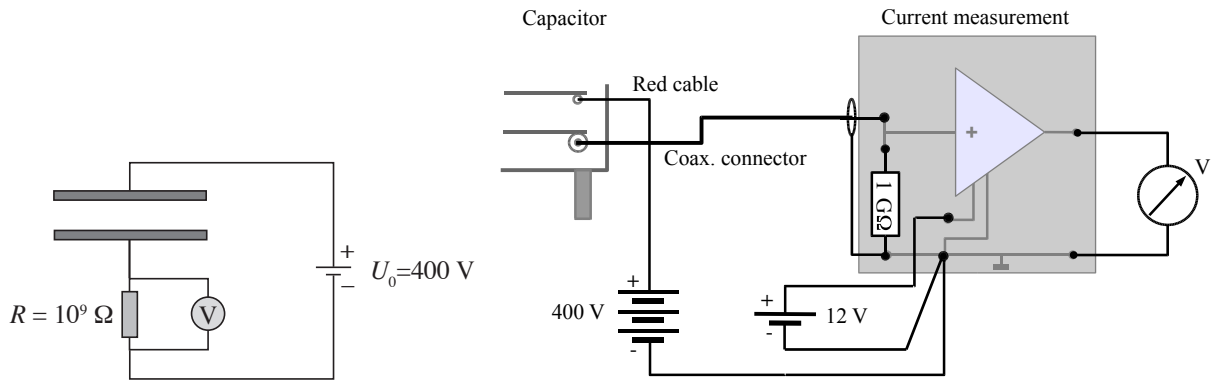

Figure 5.2.4: Schematics (left) of the circuit (right) for the ion dose measurement.
The charge measurement follows the following principle: A high voltage ( $U_0 = 400 \text{ V}$ ) is applied to the plate capacitor, which extracts the charge, produced by ionisation in the air between the plates. If in the time  $t$  the charge  $Q$  in the plate capacitor is produced and fully extracted, the current  $I = Q/t$  flows through the circuit. Because the current  $I$  is too small for a direct measurement with an ampere meter, the voltage is measured with a voltmeter that is created on the resistance  $R = 10^9 \Omega$  by the current (cf. Fig. 5.2.4).
- Ask one of the assistants to mount the plate capacitor inside the experimental area together and build the sketched circuit in Fig. 5.2.4. Note: because of the – in comparison to the measurement resistor – *small* electric resistance of a voltmeter, almost the full current would bypass the measurement resistor itself and thus falsify the measurement. Therefore, a special component called impedance converter is placed between the measurement resistor and the voltmeter. It is pre-mounted (triangle symbol) on the pin board. Let the assistant check your finished circuit. *Then* you can turn on both voltages with their settings to maximum.